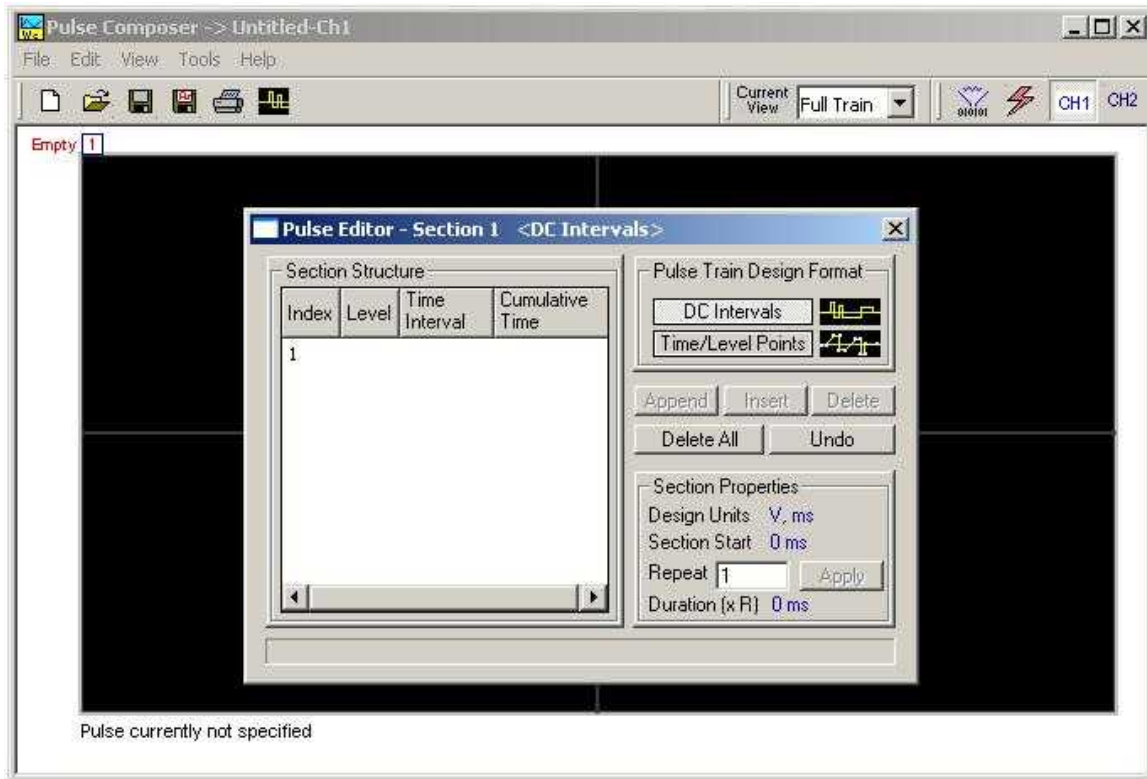

Figure 4-50, Using the Pulse Editor
The prime tool for building pulse patterns on the pulse composer screen is the pulse editor. To invoke the pulse editor, point and click on the pulse editor icon on the tools bar. The editor as shown in Figure 4-50 will show. Refer to this figure for the following descriptions.
The Pulse Editor as shown in Figure 4-50 has four groups: Section Structure, Pulse Train Design Format, Section Properties and control buttons. These groups are described below.
*Mode of Operation* – This describes the new setting of the operating mode. This field could display one of two options: Arbitrary or sequenced. Pay attention to the note (\*) that says “Select from the menu View>>Options” Since we checked the Force Pulse Train to Single Segment (see Figure 4-50), the generator determines that the waveform mode be arbitrary and only one segment can be loaded with the pulse train.